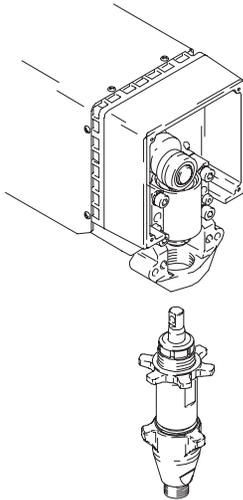

Fig. 23
1. Fig. 23. Pull piston rod out 1.5 in. Screw in pump until holes in bearing cross link and piston rod align.